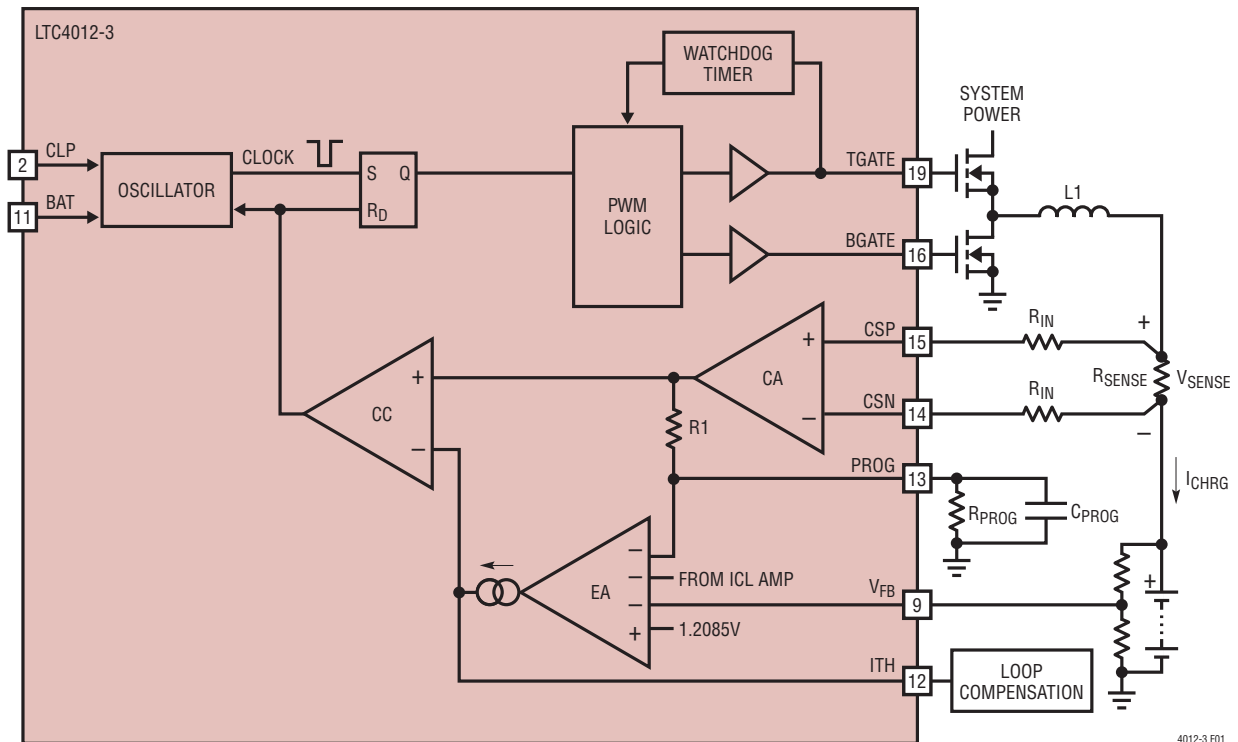

Figure 1. PWM Circuit Diagram
**CSN (Pin 14):** Charge Current Sense Negative Input. Place an external input resistor (RIN, Figure 1) between this pin and the negative side of the charge current sense resistor. Operating voltage ranges from (BAT – 50mV) to (BAT + 200mV).
**CSP (Pin 15):** Charge Current Sense Positive Input. Place an external input resistor (RIN, Figure 1) between this pin and the positive side of the charge current sense resistor. Operating voltage ranges from (BAT – 50mV) to (BAT + 200mV).
The LTC4012-3 is a synchronous step-down (buck) current mode PWM battery charger controller. The maximum charge current is programmed by the combination of a charge current sense resistor ( $R_{SENSE}$ ), matched input resistors ( $R_{IN}$ , Figure 1), and a programming resistor ( $R_{PROG}$ ) between the PROG and GND pins. Battery voltage is programmed with an external resistor divider between FBDIV and GND. In addition, the PROG pin provides a linearized voltage output of the actual charge current.
When the LTC4012-3 is charging, the voltage on the PROG pin varies in direct proportion to the charge current. Referring to Figure 1, the nominal PROG voltage is given by:
The LTC4012-3 uses a synchronous step-down architecture to produce high operating efficiency. The nominal operating frequency of 550kHz allows use of small filter components. The following conceptual discussion of basic PWM operation references Figure 1.